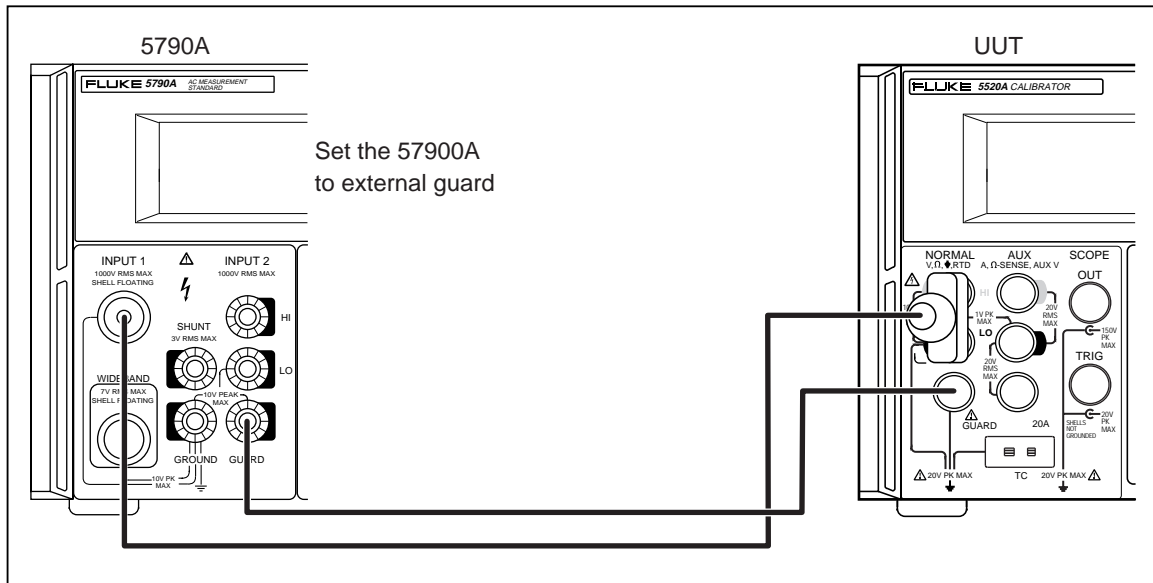

Figure 3-3. Connections for Calibrating AC Volts
1. Measure the 5520A output using Input 1 of a Fluke 5790A AC Measurement Standard. Use a Type N to dual banana adapter as Figure 3-3 shows.